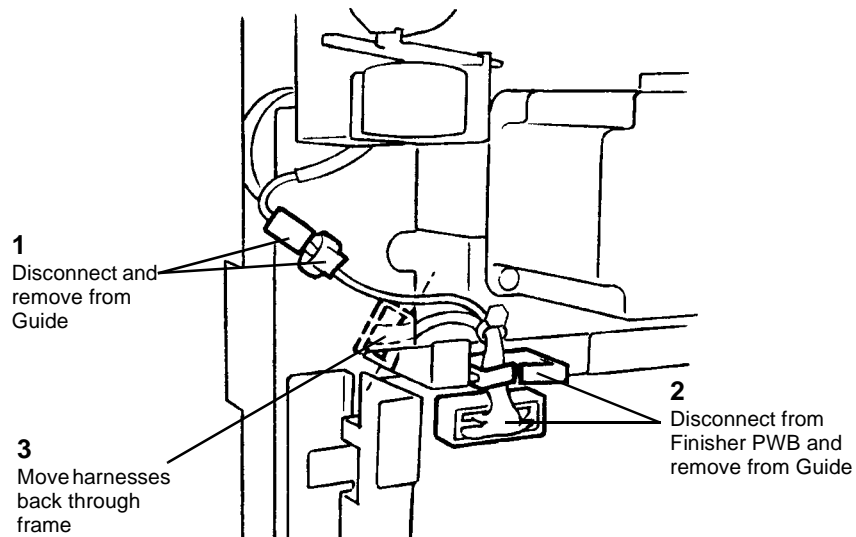

Figure 5 Releasing Compiler Tray Harness
6. Release Compiler Tray Harness (Figure 5).